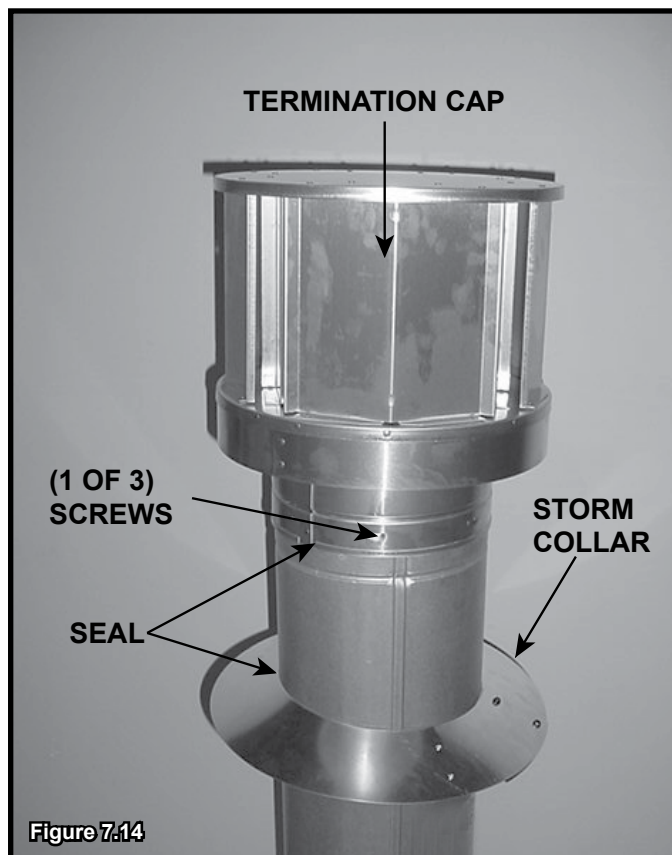

Figure 7.14
- Seal around the top of the storm collar. See Figure 7.14.
- Secure the cap by driving three self-tapping screws (supplied) through the pilot holes in the outer collar of the cap into the outer flue of the pipe. See Figure 7.14.